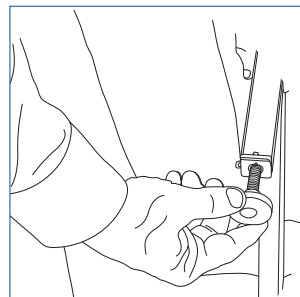

Fig. 3
2. Thread the leveling foot (PART 5) into the insert (Fig. 3)